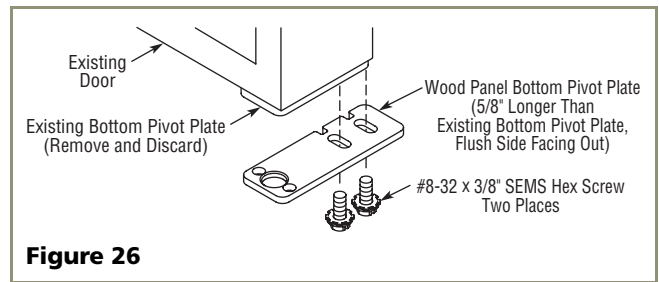

Figure 26
4. Remove the existing bottom pivot plate and replace with the Full Overlay pivot plate (see **Figure 26**).